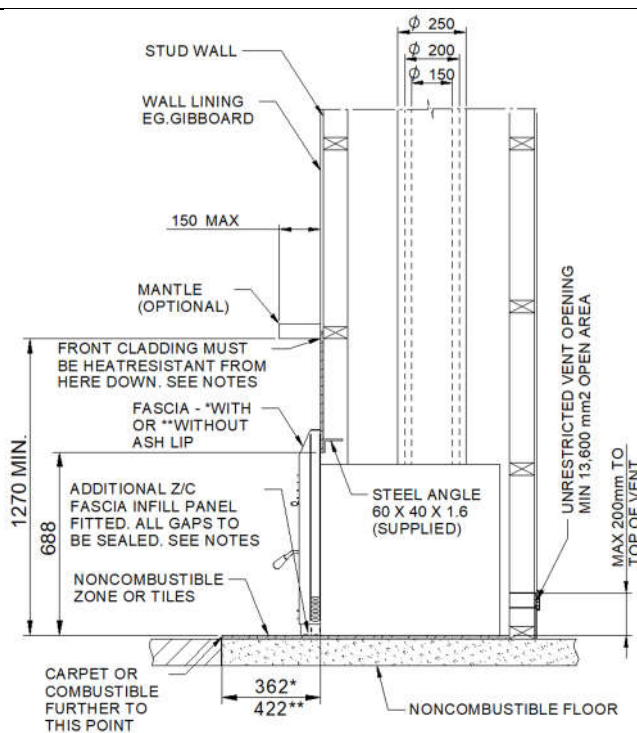

Fig. 21 – Installation on Non-combustible Floor
9. Construct a floor protector depending upon the type of the floor and the ash lip option chosen. Refer Fig. 21, 22 & 23